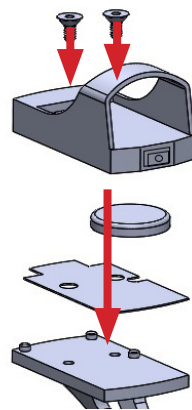

Fig. a-2
2. Install the CR2032 3v battery in the bottom of the DTRO with the positive side facing down. (Fig. a-2)
3. Install the DTRO to the DTRO mount by aligning the DTRO mounting pegs with the DTRO Seal Plate and the bottom of the DTRO, ensuring the lens is at the front of the DTRO mount. (Fig. a-2)
4. Fasten the DTRO to the DTRO mount using the two supplied 2.5mm hex screws with the supplied 2.5mm hex key. Tighten snug, taking caution to not strip out the hex screw head, or to over-tighten the screws on the sight body. (Fig. a-2)
2. The DTRO takes a CR2032 3v battery. It is located on the bottom of the optic. Once mounted, optic removal will be necessary to change the battery. (Fig. a-2, page 34)